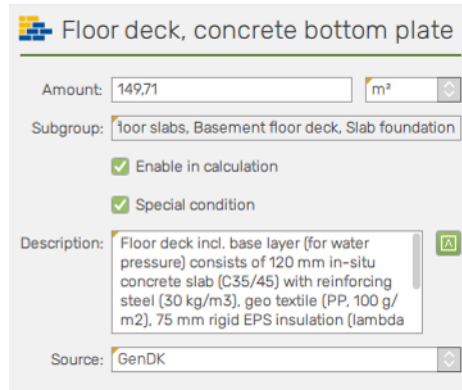

Figure E.3: Shows where special condition is activated for a given construction.
To identify what constructions are subject to special condition, the field **special condition** is activated for the construction, see Figure E.3.
- STEP 4** Go to menu tab *Building model*, click on the given construction and turn on *special building conditions*, see Figure E.3.